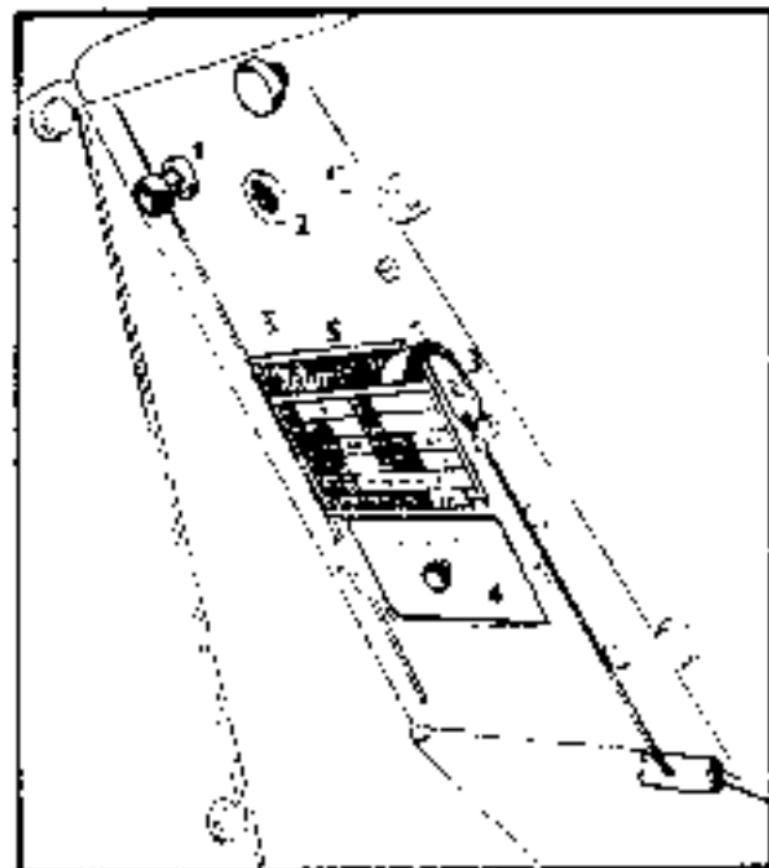

Fig. 2
- Work searchlight switch (Fig. 2/1)
- Filling lamp socket (Fig. 2/2)
- Radiator shutter control (Fig. 2/3)
- Fuse box (Fig. 2/4)
- Tractor identity plate (Fig. 2/5)
- Front windscreen wiper push button (Fig. 2/6)
- Front windscreen wiper tank (Fig. 2/7) - 11 litres each